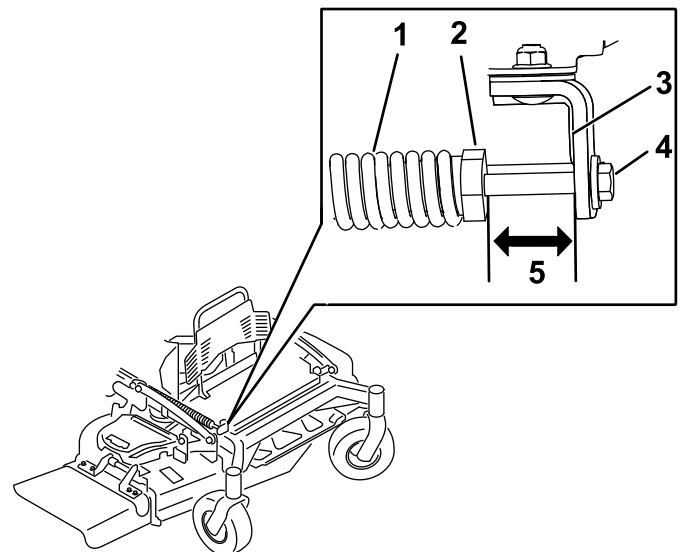

Figure 92
2. Check the distance between the spring nut and the rear side of the welded mount bracket (Figure 92).
3. Ensure that the length is 51mm (2 inches) for 48/52in decks, and 38mm (1.5 inches) for 60in decks as shown in Figure 92.
4. If needed, adjust the distance by adjusting the bolt on the front of the mount bracket (Figure 92).